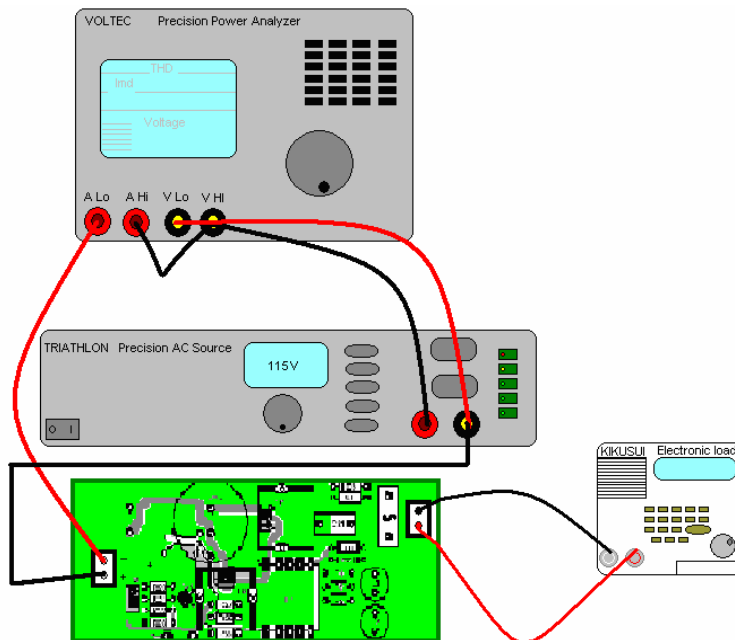

Figure 9. NCP1230GEVB Test Setup
8. Connect the Voltec Precision Power Analyzer as shown in Figure 9.